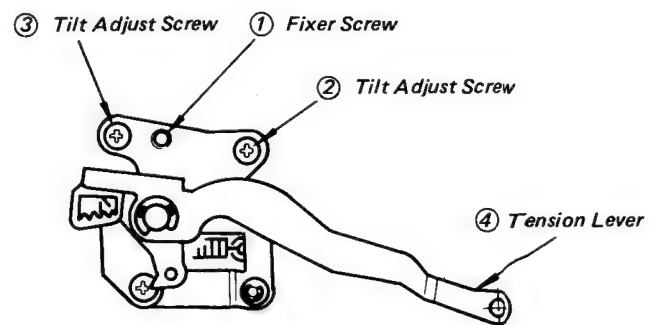
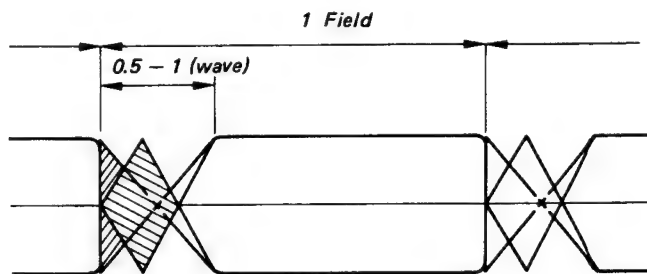

Fig. 5-120 Adjustment of the Tilt Screw
Fig. 5-123 Entrance Side Envelope Wave-form
If there is the cross portion in the envelope, adjust the screw ③ as shown in Fig. 5-120 by a half quarter turn to eliminate it.
**NOTE:** Do not turn the screw ③ more than 90 degrees.
D. Adjust the O guide to maintain that the cross portion in the envelope should be appeared (Fig. 5-123) one or a half and adjust the entrance guides as shown Section 34-1 step 5-a.